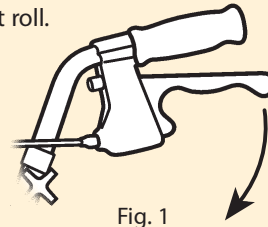

Fig. 1
1. Push down on the knob located at the rear of the brake handle. (See Fig.1)